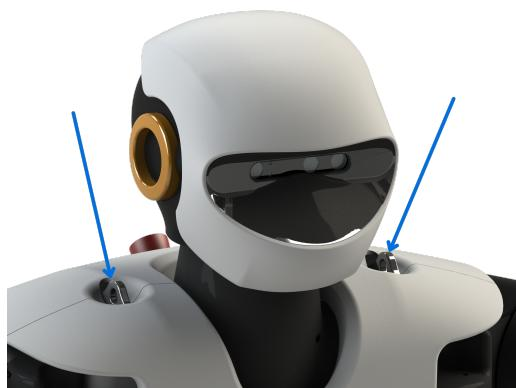

Figure 10: Hooks location
- TALOS should be always hung using the hooks that stand out from the shoulders (Figure 10). To reduce the stress on the mechanical structure of the robot, make sure that the feet are clearly in contact with the floor, completely flat and the robot remains straight and vertical. Always use the carabiners and ropes supplied with TALOS.
- Never hold TALOS by any other part but the hooks over the shoulders (Figure 10).
- TALOS should never stay out of its crate without being sustained by the hooks over the shoulders (Figure 10).
- Never use TALOS without being sustained by the hooks over the shoulders (Figure 10). Take the weight of the robot into account when dimensioning the holding device (see chapter "Specifications", section "Weight").